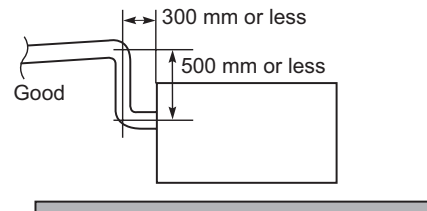

Fig. 2-85
- If it is necessary to increase the height of the drain pipe, the section directly after the connection port can be raised a maximum of 500 mm. Do not raise it any higher than 500 mm, as this could result in water leaks. (Fig. 2-85)